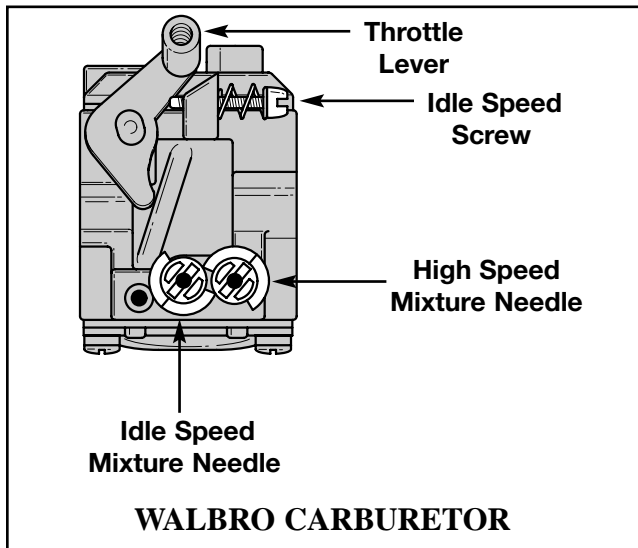

Fig. 30
- b) For **Walbro** carburetors: Back the idle speed screw (Fig. 30 - page 14) **out (counterclockwise)** until it *does not contact* the carburetor throttle lever. Then turn the screw **in (clockwise)** until it just *begins to move* the throttle lever; then continue turning **2 full turns.**
5. Release the throttle trigger and let the engine idle. If the engine stops, turn the idle speed screw (Figs. 30 and 31) **in (clockwise) 1/8 turn** at a time (as required) until the engine idles.
- a. Turn the idle speed mixture needle (Figs. 30 and 31) **in (clockwise)** until you hear the fastest idle; then turn the needle **out (counterclockwise) 1/8 turn**.
- b. Squeeze the throttle trigger. If the engine falters or hesitates as it accelerates, turn the idle speed mixture needle (Figs. 30 and 31) **out (counterclockwise) 1/16 turn** at a time until the engine accelerates rapidly.